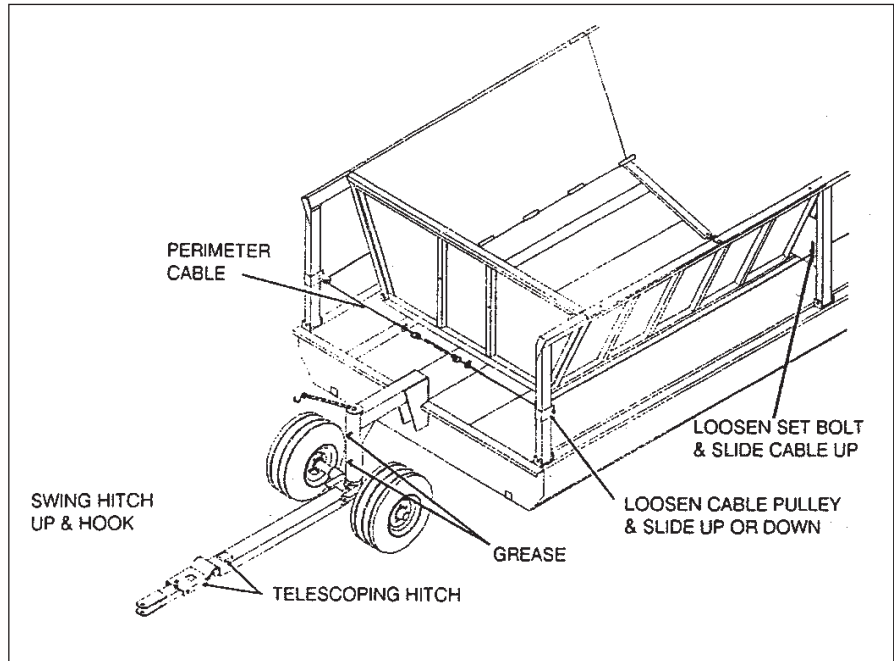

FIGURE 1
1. Where the cable passes through each upright on the side assemblies, loosen but do not remove the set bolt over the adjusting slot. Slide cable up or down and retighten. See Figure 1.
1. Grease the two fittings on the front steering pivot post monthly. See Figure 1 .